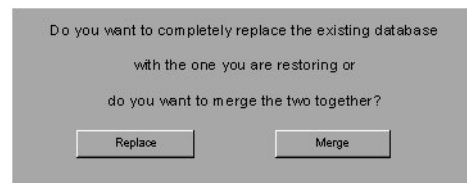

Figure 14.14 Database Replace/Merge Dialog Box
- 4 Select PROCEED to begin the data restore. A message will appear as is shown in Figure 14.14. Select REPLACE if you wish for the existing data on your hard disk to be overwritten. All data on the hard drive will be erased. Select MERGE if you wish data from the server to be added to the data already on the hard disk of the HFA II-*i*.